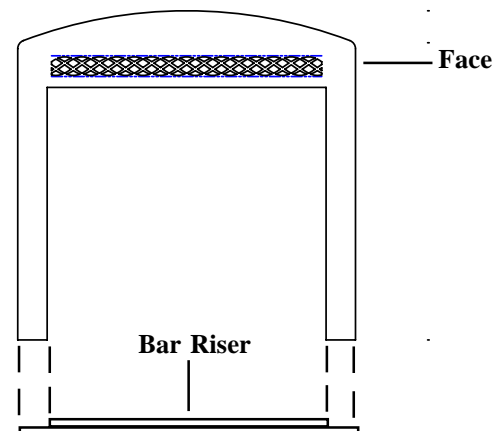

Figure 1 - Attaching bar riser to face
3. If you do not require 3/4" space for finished material, use bar riser. Install bar riser on to the bottom of face. The bar riser will fit on the bottom of the face. (See Figure 1)